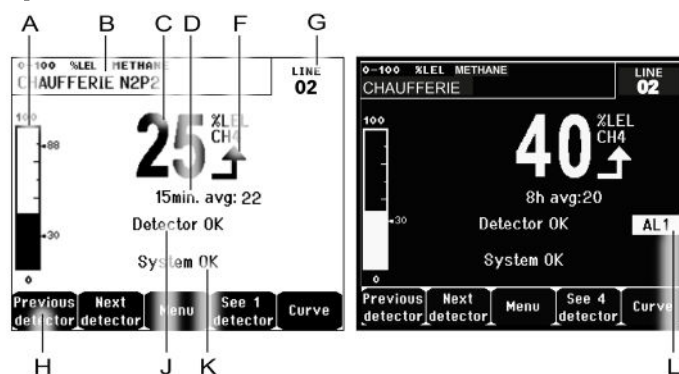
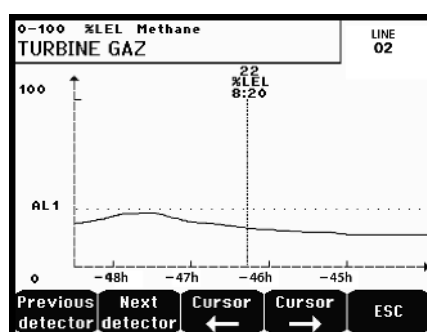

Figure 35: Example of the measurement display in normal mode and in grayscale mode
Figure 36: Example of a curve display screen
H.	<p>Function keys.Previous detector: Display of measurements of previous detector; scanning of all the detectors on all the lines.</p> <ul style="list-style-type: none"> • Next detector: Display of measurements of next detector; scanning of all the detectors on all the lines. • Menu: Display of main menu See paragraph "Main menu" on page 44. • See 4 Detectors: Display of a group of 4 detectors (detector tag, barograph with indication of alarms, value of current measurement with unit and gas detected). Use the Page down or Page up keys to display all of the next 4 detectors; passage to the next zone is automatic. • See 8 Detectors: Display of a group of 8 detectors (detector tag, value of current measurement with unit and gas detected). Other buttons similar to the selection. See 4 detectors. • See 1 detector: Display in normal mode (Figure 35). • Curve: Display of the measurement curves of the last 10 days (Figure 36). The → and ← keys allow cursor displacement through the time scale. The vertical dotted line displays the concentration and time stamp of the point being considered. Escape: return to display of values.
L.	Zone of indication of activated alarms with blinking threshold display. The screen changes to inverse video (Figure 35).